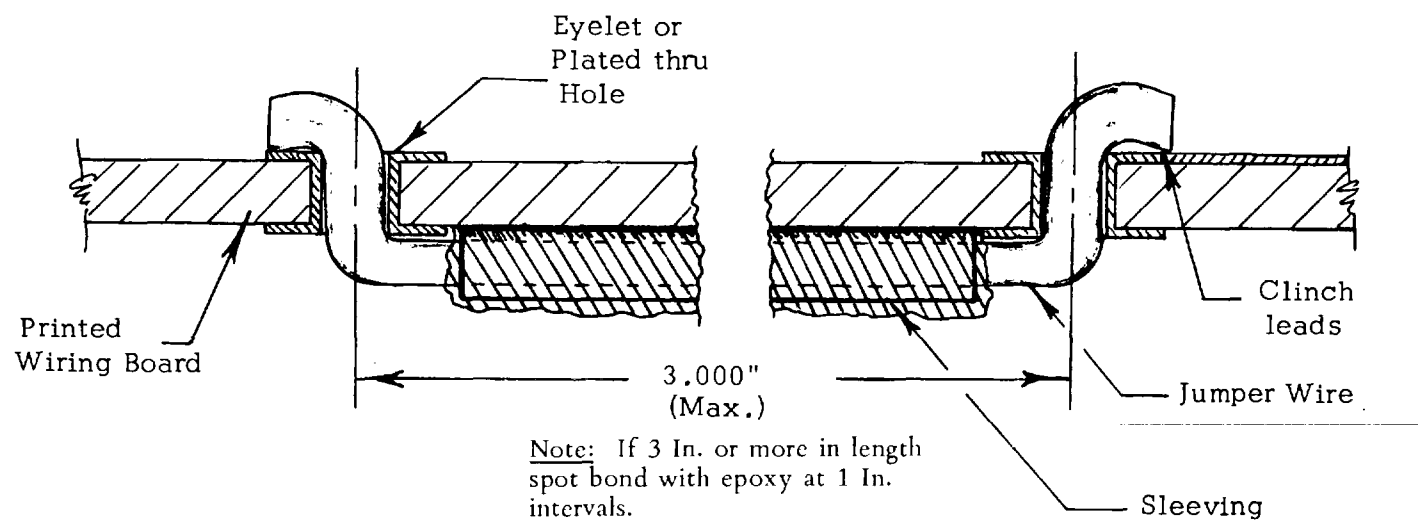

**Figure 3-7. Buss Wire Requirements**
(3) After removal of path, replate exposed copper pads with minimum solder application.
(4) Clean solder applications as required.
b. Lifted, Broken or Damaged Circuitry. To repair lifted, broken or damaged printed circuitry between eyelets, pads or plated through holes, perform the following procedures. (Refer to figure 3-7.)